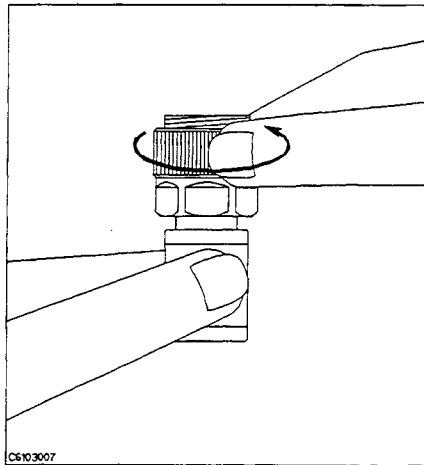

Figure 3-8.
12. Turn only the APC-7[®] connector nut of the 50 Ω termination as shown in Figure 3-8.